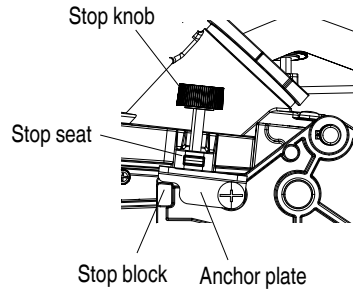

Fig. 24-b
15. Setting the cutting depth (Fig. 24-b)